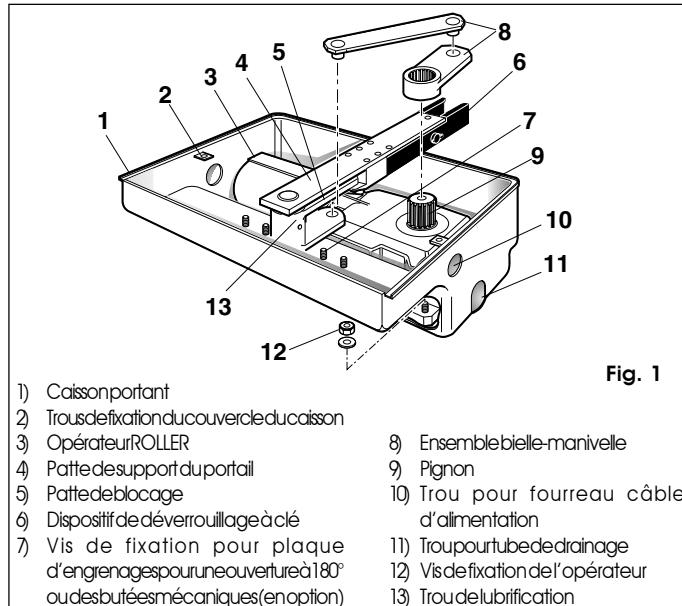

Fig. 1
Should the need arise to operate the gate manually because of a power failure or malfunction, the release device with key fitted on the support bracket (fig. 1 - ref. 6) makes it possible to release the system both from the inside and from the outside.
Periodically lubricate the pivot and ball in the support bracket, through the lubricating bore shown in fig. 1-ref. 13. Make sure that the pivots of the lever systems and the pinion are always well lubricated.